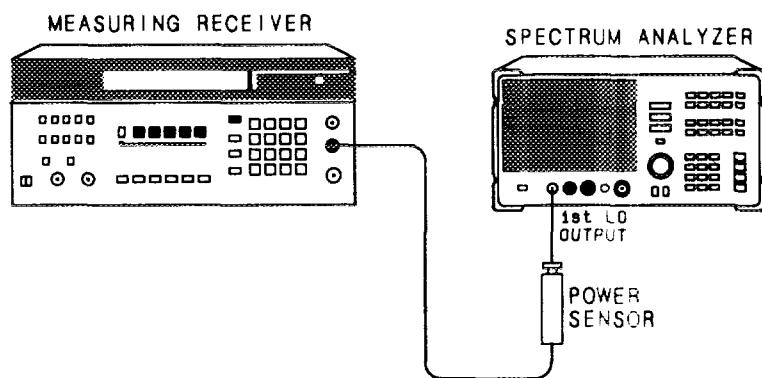

Figure 3-22. 1ST LO Output Amplitude Test Setup
2. Connect the equipment as shown in Figure 3-22.